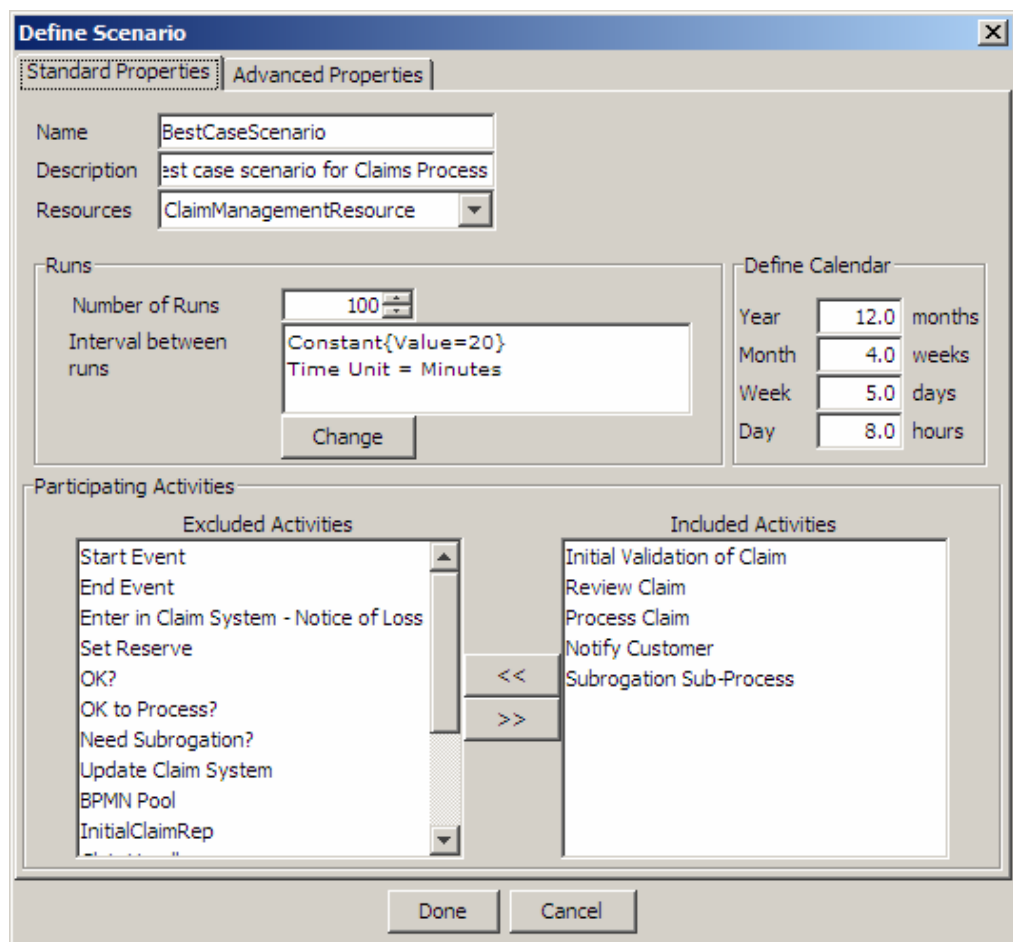

Figure 10.9: Claim Management Scenario
13. You can include or exclude an activity in the simulation scenario to get different statistics. *Participating Activities* section shows the list of activities which are included in the scenario and which are not included in the scenario. You can exclude and include an activity using **<<** and **>>** button. Figure 10.9 shows the scenario used in Claim Management process flow.